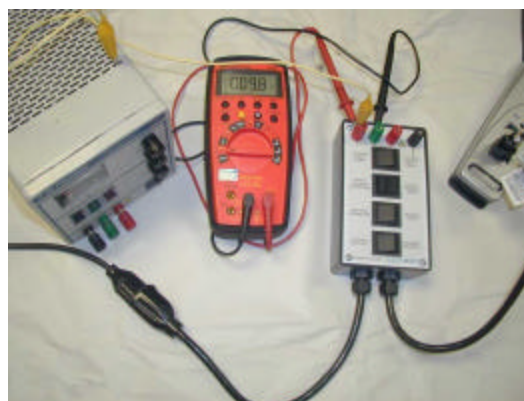

Figure 14 Leakage Test for Facility Owned Portable Equipment
13. See Figure 14 and Table 14 for a Test Setup synopsis. This section is based on NFPA 99 Fig. 10.2.13.5.4.1, see below.